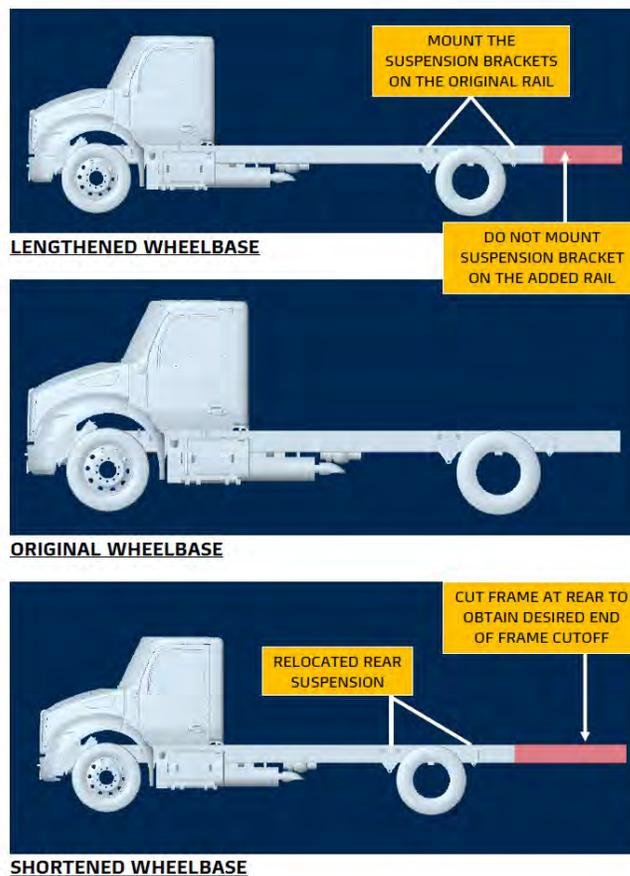

Figure 36 Wheelbase Customization
When shortening the wheelbase, the suspension should be moved forward and relocated on the original rail. The rail behind the suspension can then be cut to achieve the desired frame overhang. See **Figure 36**.
**WARNING:** When relocating a suspension bracket, do not mount it on the extended (added) section of a frame rail. The suspension loading could result in premature failure of the added section splice. This could cause an accident. Use care when planning the wheelbase so that the rear suspension bracket is always mounted on the original rail section. See Figure 36.